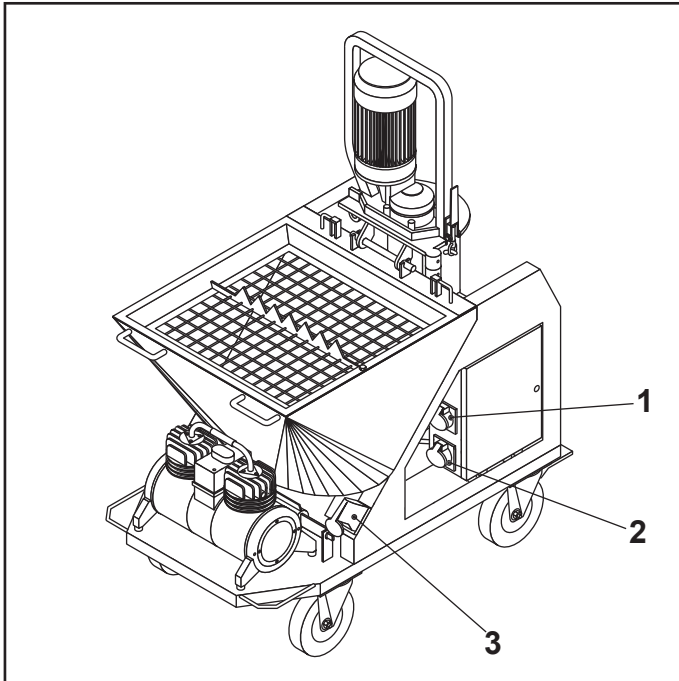

FIG.08
- Connect the mixer's motor gear power plug (FIG.08-REF.1) and the compressor's power plug to the socket (FIG.08-REF.2).
- Connect the power cable to the socket (FIG.08-REF.3).